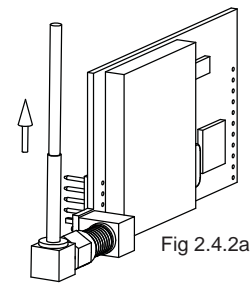

Fig 2.4.2a
- 2) Attach antenna connector to radio board with the cable in the orientation shown in Fig 2.4.2a. **Note: In some RC monitors, cable tie may need to be cut to attach antenna.**